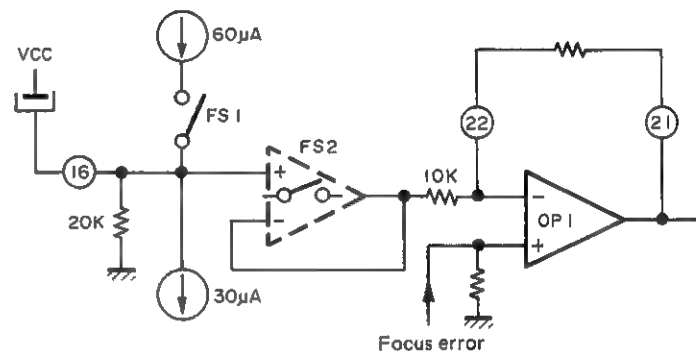

Fig. 6-3 Explanation of FS1, FS2
The operation of FS1, FS2 is described next. (21), (22) etc. in Fig. 6-3 indicate terminal numbers of CXA1244S (same hereinafter) OP1 is the operational amplifier for focus servo and the output of FS2 is connected to its inversion terminal. FS2 is such a switch that is ON and works as a usual voltage follower at the time of 1; and that its output is of high impedance at the time of 0. FS1 is a simple current switch which is OFF at the time of 1 and works to allow flow of  $60\mu\text{A}$  at the time of 0. This value of  $60\mu\text{A}$  is what is obtained when  $240\mu\text{A}$  is fed to ISET (14) terminal. The voltage for focus search is produced using these FS1, FS2.